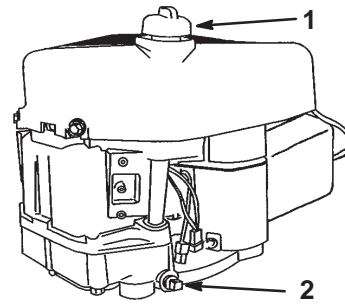

Figure 15
7. Clean around the oil dipstick (Fig. 15) so that dirt cannot fall into the fill hole and damage the engine.
9. Place a pan below the oil drain plug and remove it (Fig. 15).
12. Slowly pour approximately 80% of the specified amount of oil into the fill hole (Fig. 15). Check the oil level; refer to steps 4 and 5 of Checking the Oil Level on page 20.
5. Slowly pour approximately 80% of the specified amount of oil into the fill hole (Fig. 15). Check the oil level; refer to steps 8 and 9 of Checking the Oil Level on page 20.